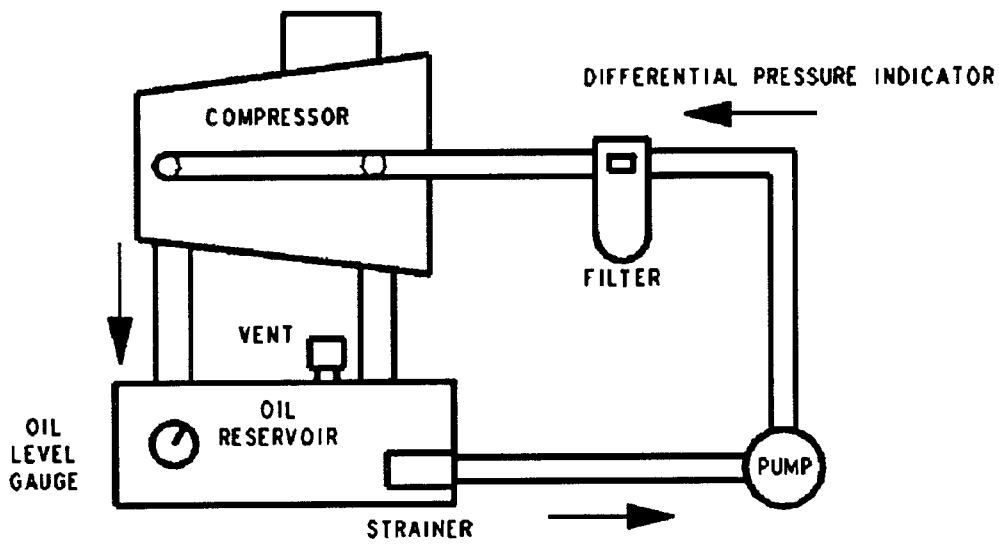

FIGURE 1-3 - LUBRICATION SYSTEM
**LUBRICATION SYSTEM** (Figure 1-3) - An oil reservoir is located directly below the compressor to supply oil for lubrication of the compressor bearings and gears. Oil passes through a strainer in the oil reservoir to the pump, oil filter and then into the bearings/gears. Seals between the bearing housings/compression chamber prevent oil from escaping and water from contaminating the oil.